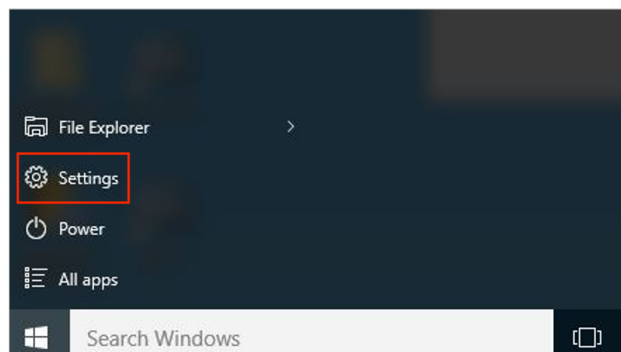

Figure 22. Select **Settings** from the start menu.
- 9 Press the **Start** (Windows button) on the task bar, then select **Settings** (**Figure 22**).